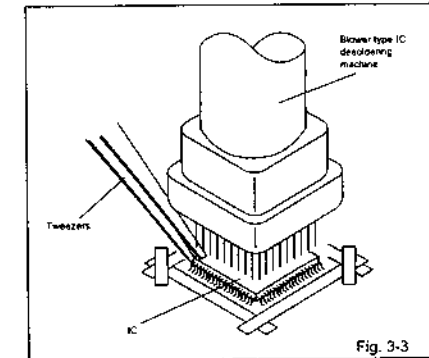

Fig. 3-3
- When IC starts moving back and forth easily after desoldering completely, pickup the corner of the IC using a tweezers and remove the IC by moving with the IC desoldering machine. (Refer to Fig. 3-3.)